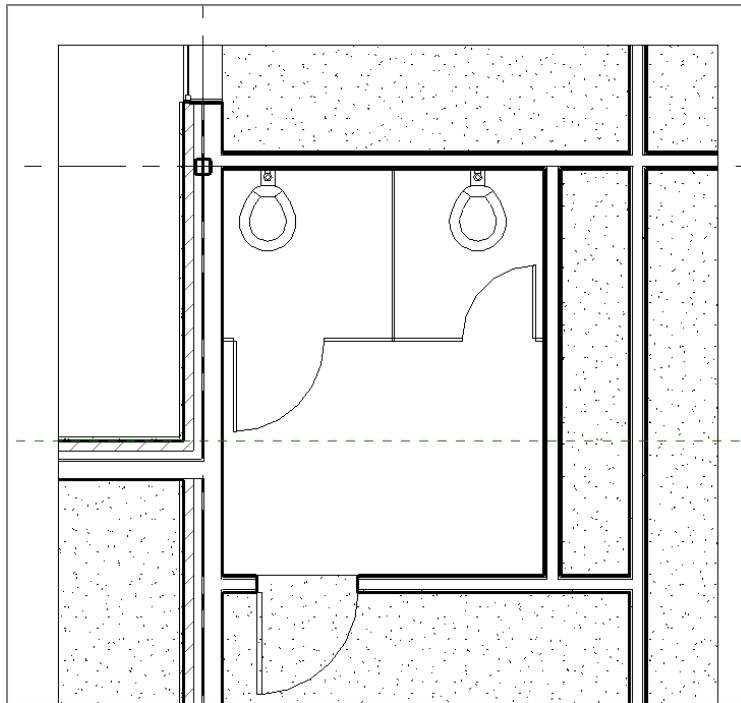

FIGURE 9.38: The two toilets and stalls in place
7. Place the stall in the model (see Figure 9.38).